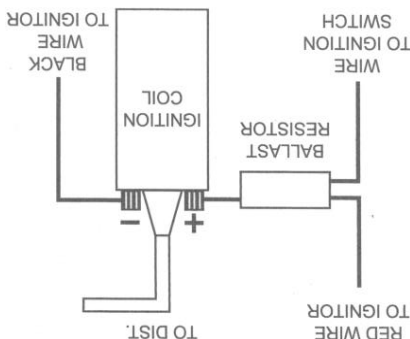

FIGURE 3
19. For installations that use a primary ballast resistor or resistance wire, connect the Ignitor red wire to the ignition switch side of the resistance. (See Figure 3).